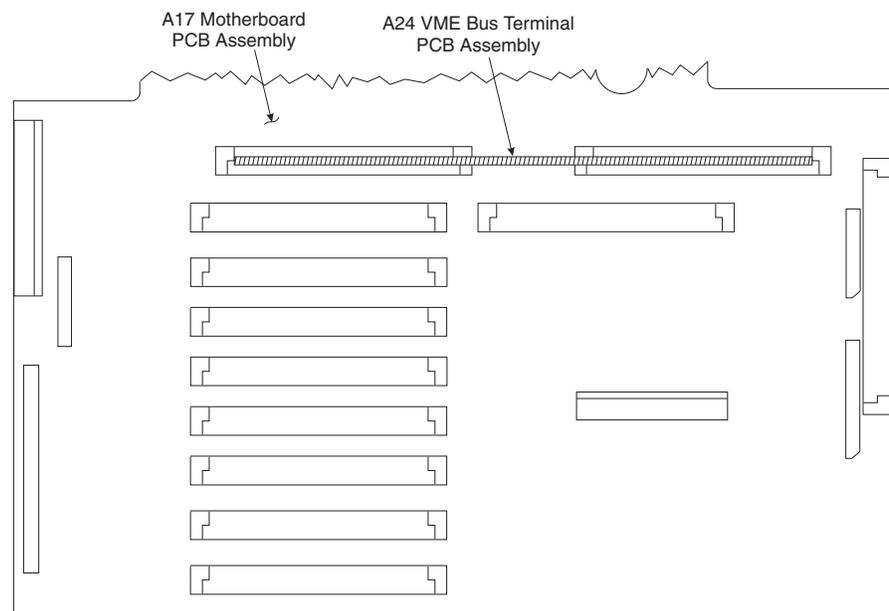

Figure 8-3. Location of the A24 VME Bus Terminator PCB Assembly
- Step 2. Locate the A24 PCB assembly (Figure 8-3). Unplug A24 PCB assembly from the A17 Motherboard PCB by gently pulling straight up on each side.